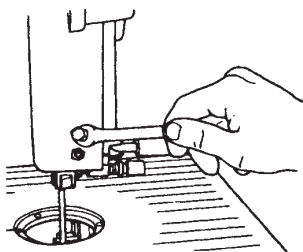

Fig. A-6
1. Use a 7/16" wrench to remove the blade guard, as shown in Fig. A-6.